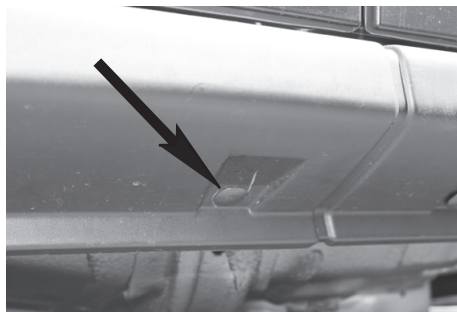

Figure 5
11. Locate clip on trim plate located near drivers door shown in **Figure 5** and remove using a screwdriver and pliers.